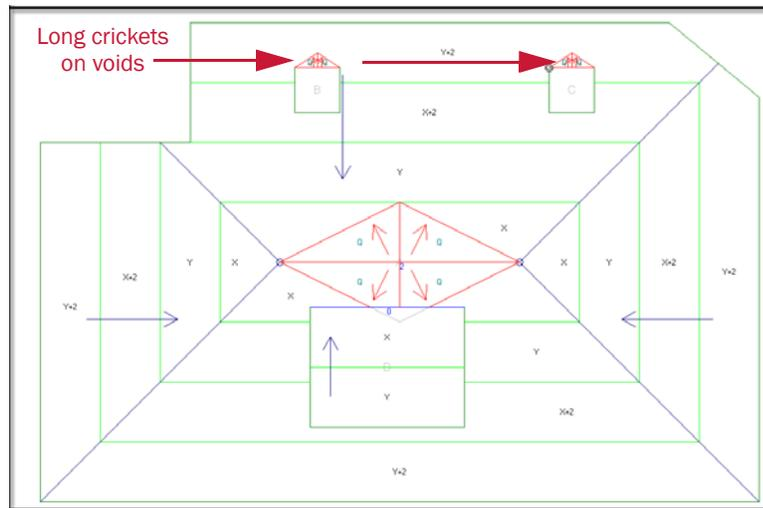

Figure 3-15 Your roof outline with long crickets on voids
13. Press Enter again when you are asked “Is this the correct side?” Your roof outline looks like Figure 3-15.